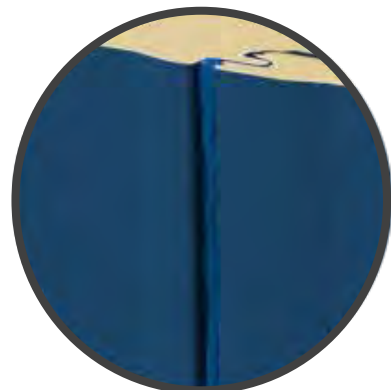

figure 16.8b
- fill exterior reveal above penetration with color matched urethane sealant (not by panel manufacturer) to top of panel (figure 16.8b)